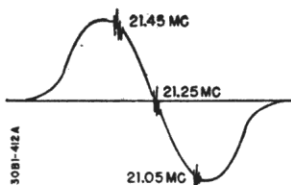

Figure 31. Ratio Detector Response Curve.
5. Observe ratio detector response (figure 31). Since the sweep signal is fed through the entire audio IF system for this check, mis-alignment of the audio IF's will affect this curve. This provides an overall audio IF response check. The shape of the curve should be such as to provide a minimum vertical voltage slope of 50 KC to each side of the 21.25 MC marker (cross over point). Maximum size and linearity of the straight portion of the curve is ideal. Note that the ratio detector circuit used gives a symmetrical "S" pattern. Check for linearity between the markers indicated on the curve. The response curves obtained may appear inverted and/or reversed (end for end) depending on the sweep generator and oscilloscope used.